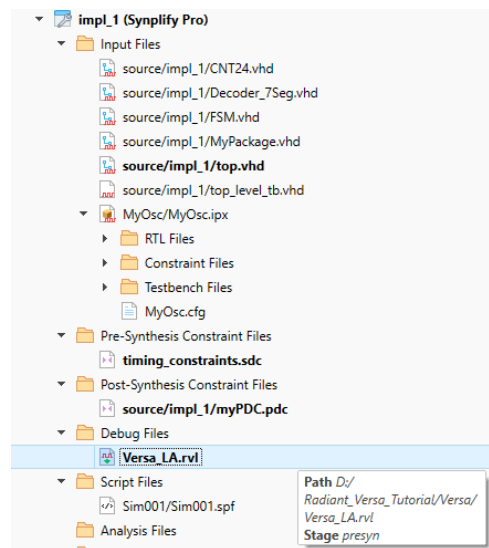

Figure 50: File List with Reveal Debug File
5. Click Save. The .rvl file is added to the Debug Files folder in the File List view, as shown in Figure 50.